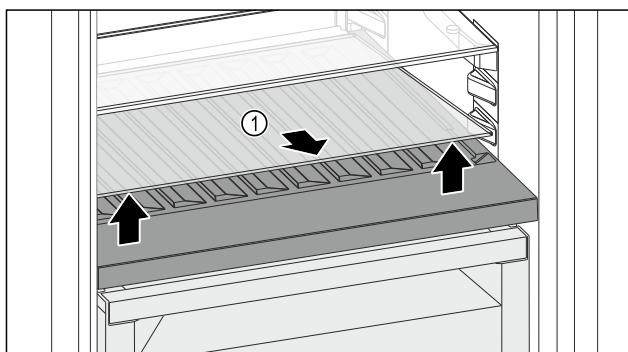

Fig. 108
- ▶ Lift the glass shelf Fig. 108 (1) in the front at the recess and pull it out.
- ▶ Store the glass shelf Fig. 108 (1) somewhere safe outside of the appliance.